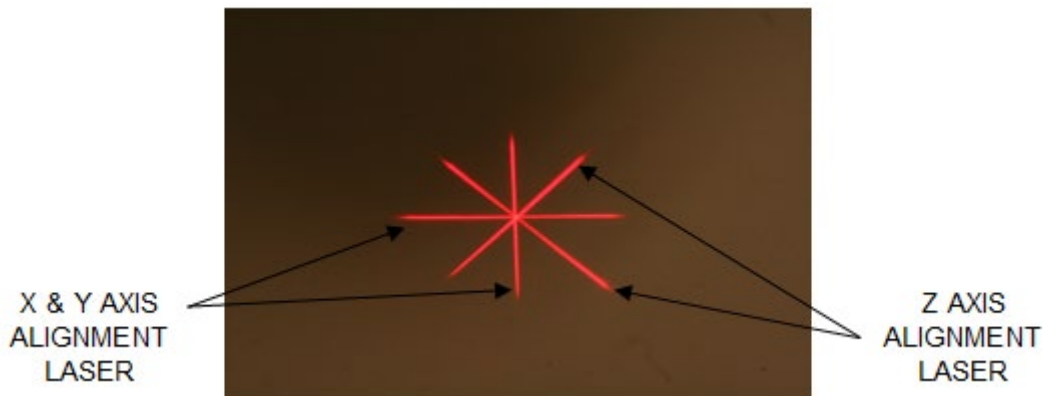

Figure 3-24. Alignment of Red Crosshairs – X & Y Axes and Z Axis
- KXL has two alignment lasers as shown in Figure 3-24.